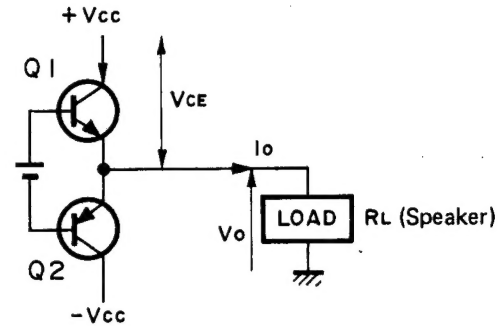

Fig. 4 SEPP Circuit
- (1) Final transistor
- (2) Power transformer
- (3) Power circuit (rectifying diodes, etc.)
- (4) Lamps, etc.
The following explanation is concerned with item (1), above. Consider a class B SEPP circuit as shown in Figure 4. The power consumption P_c of each of the transistors can be expressed as the product of the collector current I_c and the collector-emitter voltage V_{CE} . Thus,